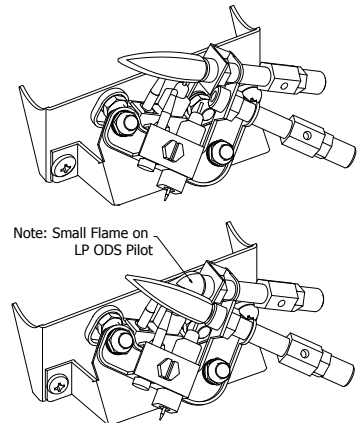
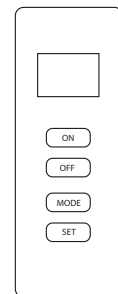

Fig. 27 - Pilot
Fig. 28 - Remote
6. With control knob depressed, push down on the ignitor button until the pilot lights. The pilot's location is behind log #3 near the center of the burner. (See Fig. 27).
7. Keep control knob depressed for (30) seconds after pilot lights. Release control knob.
- If pilot goes out repeat steps 3 through 7. Wait (1) minute before attempting to light pilot again. If after several tries the pilot still goes out, turn the gas control knob clockwise ↻ to the "OFF" position and call a qualified service technician.
9. To use the included thermostatic remote control, set receiver switch to the "REMOTE" position (See Fig. 28). Press the ON button to turn on the remote to ignite the main burner. Refer to the remote control instruction manual on the next page for "MODE" and "SET" functions.